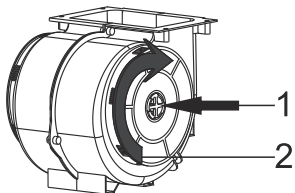

Fig. 7: AF 100 CARBON FILTER
- 1-Place the carbon filter in its housing.Fig. 7
- 2-Rotate the carbon filter clockwise and make sure that it is seated completely.Fig. 7